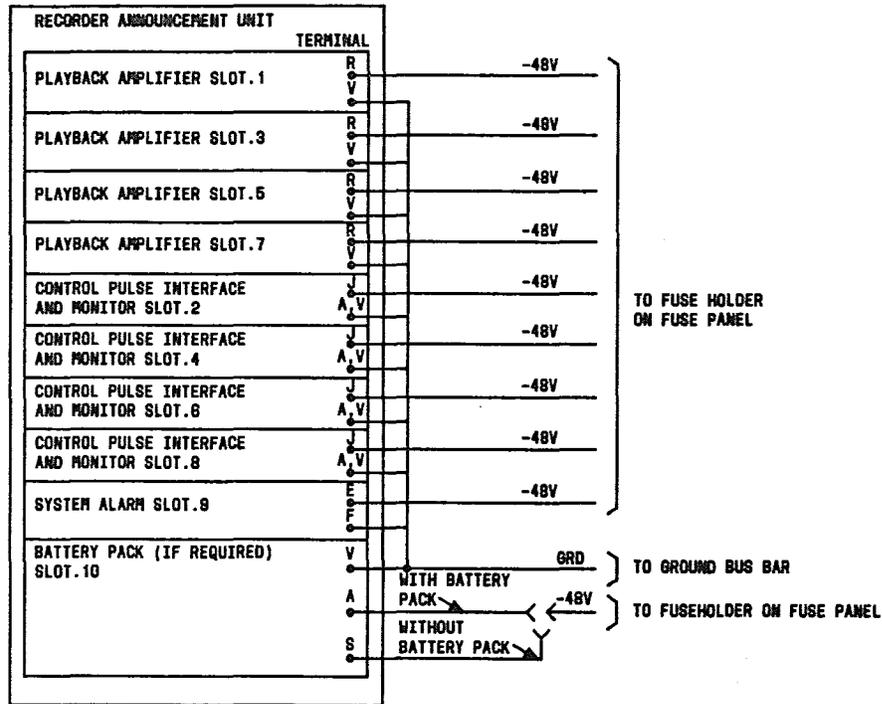

Fig. 2 - HQD 614 Fuse Panel Connections
3.2 Make ground and -48V connections (20 AWG) as shown in Fig. 2. Make ground connections first as polarity is critical.